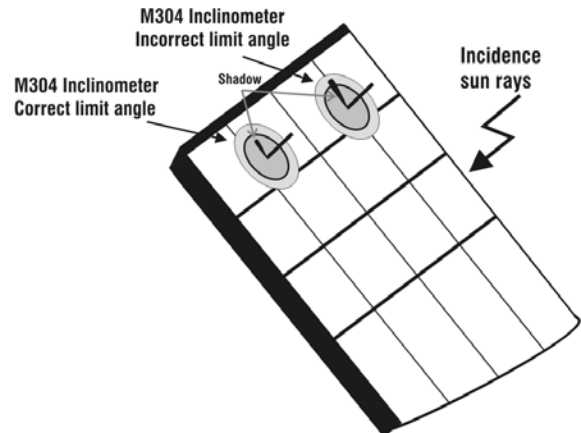

Fig. 7b: Positioning of inclinometer M304
15. Mount the M304 (inclinometer) supplied accessory, place and hold it on the plane of module. **Verify that the sun shadow falls on the disc within the “limit internal circle” on the disc itself (see Fig. 7b).** If this is not the case, the incidence angle between sun rays and the module surface is too high and not complying with the test conditions declared by the module manufacturer. As a consequence the measurements performed by the meter are not ok and all measurements steps shall be repeated at another daytime